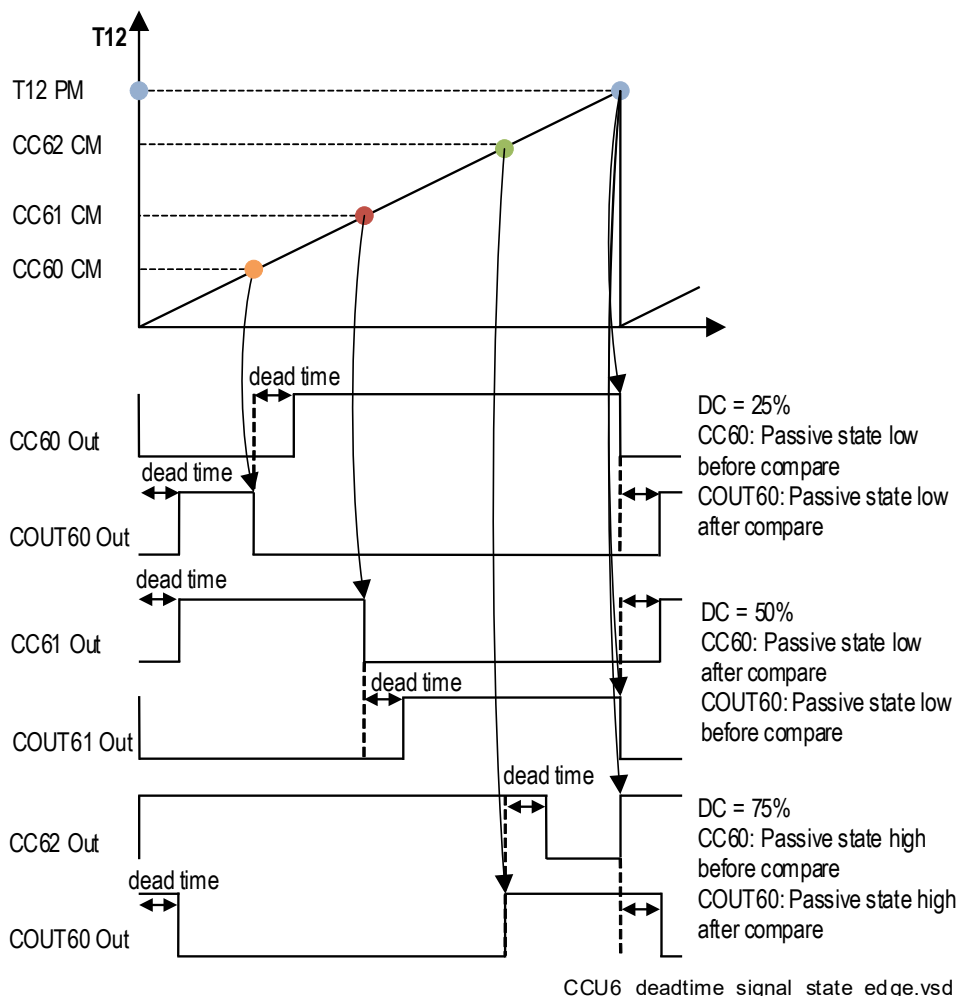

Figure 12 Different PWM generation patterns
The dead time, the duty-cycle (DC) as well as the channel state before or after the compare match can be configured. Different settings for channels 0-2 are shown in Figure 12.